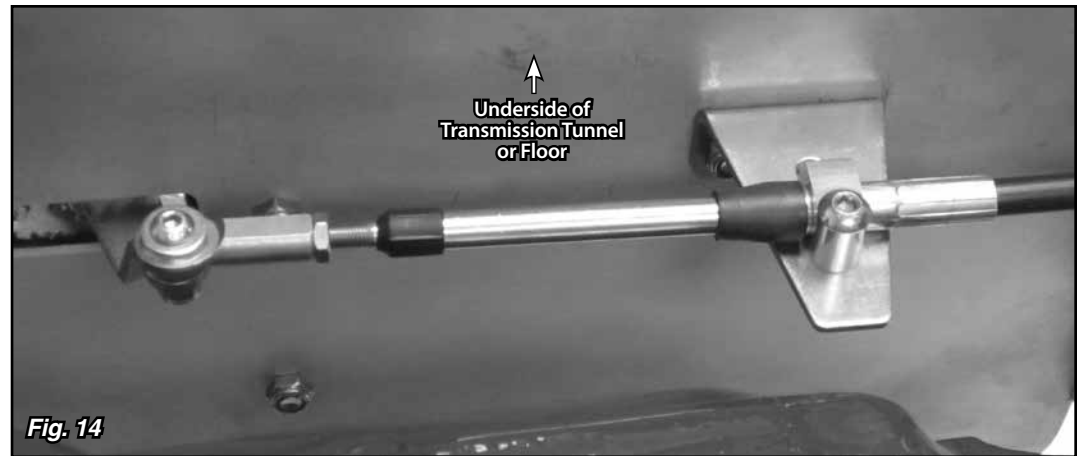

Fig. 14
Step 19: Mount the upper cable mounting bracket to the floor using the 5/16"-24 x 1/2" button head bolts and nylock jam nuts. *Fig. 14*